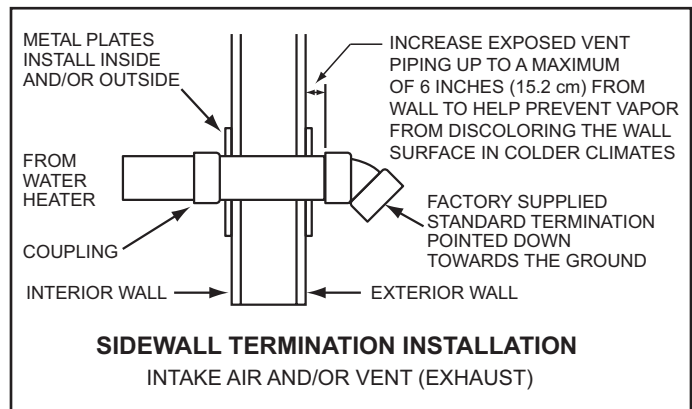

Figure 22
8. Cut a length(s) of pipe being installed 3.5 inches (8.9 cm) to 9.5 inches (24.1 cm) longer than the wall thickness at the opening. See Figure 22.
11. Working from outside, slide the pipe and termination(s) assembled in the above steps through the wall. Ensure the termination(s) is pointed down towards the ground. See Figure 22.
15. Install a coupling to the end of the pipe(s) inside the building. Before the silicone caulking has time to completely set go outside the building and ensure the termination(s) is still pointing down towards the ground. See Figure 22.